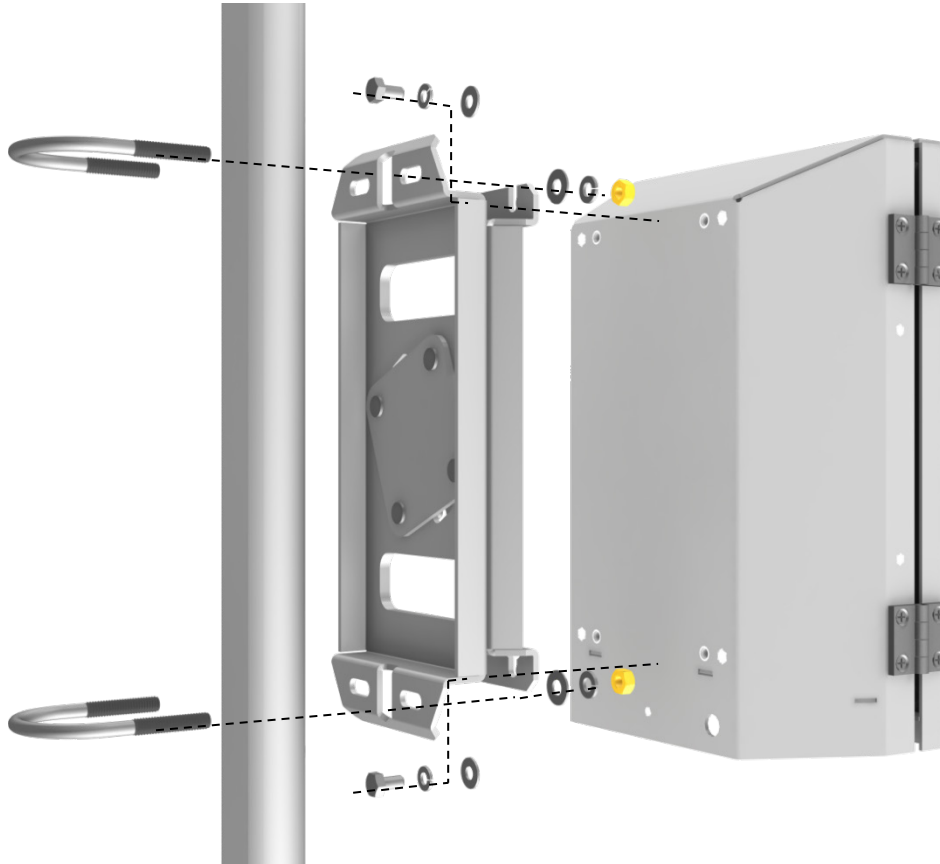

FIGURE 6-9. Exploded view of mounting the EC100 enclosure
4. Attach the EC100 enclosure to the bracket by loosening the bolts on the back of the enclosure, hanging the enclosure on the mounting bracket (it should slide into place and be able to securely hang from the bracket), and retightening the bolts (see FIGURE 6-9).